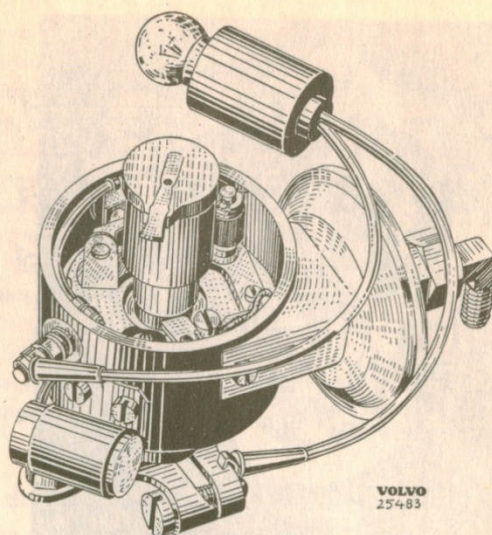

Fig. 1-66. Lamp connected up for basic ignition timing setting
3. Connect up a small bulb (max. 2 W) as shown in Fig. 1-66 and connect up the current. Turn the distributor housing slowly in an anti-clockwise